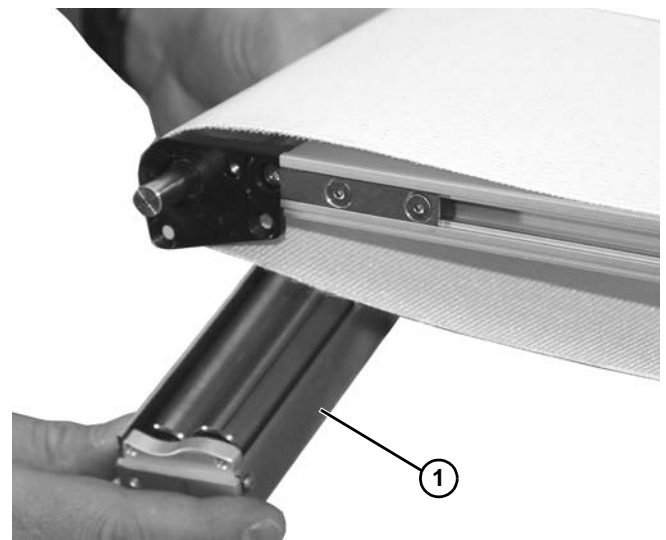

Figure 39
4. Lower pinch drive (Figure 39, item 1) from conveyor.